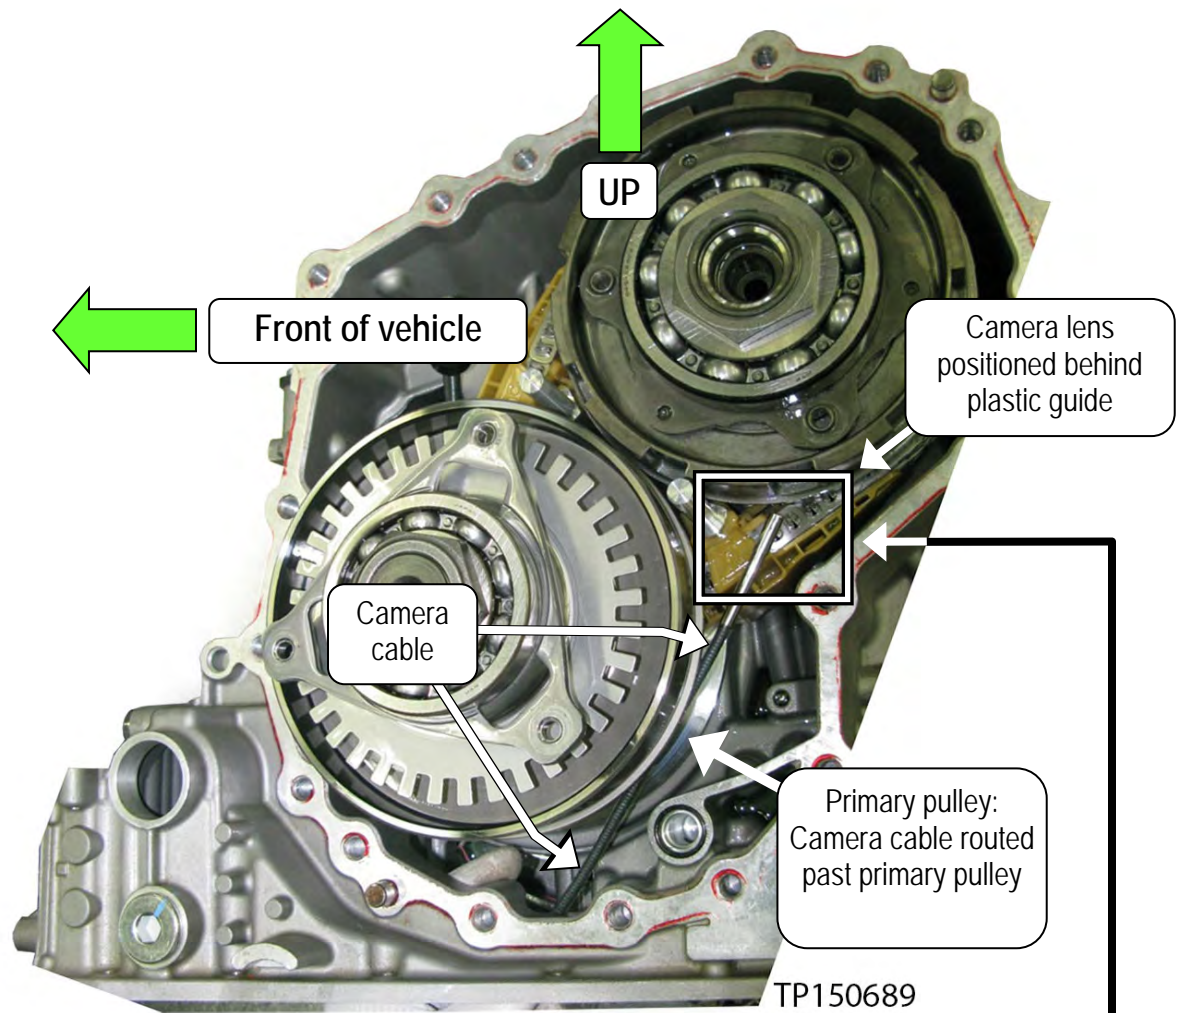

Figure 7C
- Figures 7C and 8C show the routing and location of the camera.